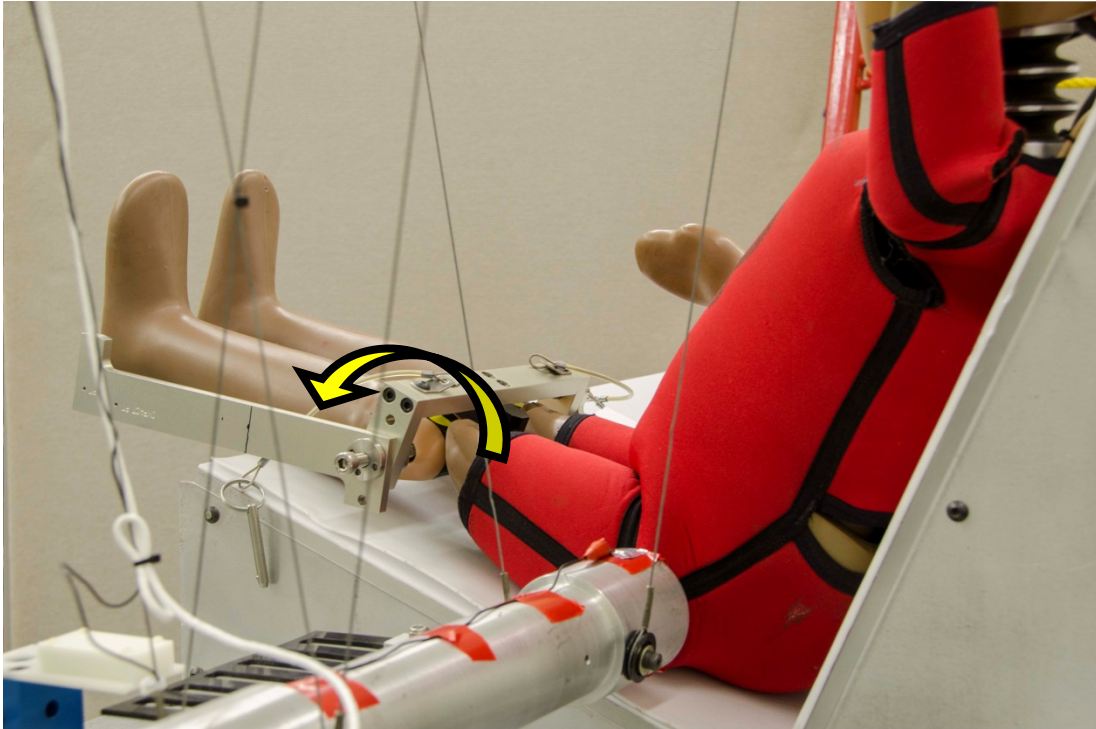

Figure 131. Setting approximate pelvis impact position
- Align the pointer with the pelvis impact point hole on the Q3s positioning tool (Figure 131).